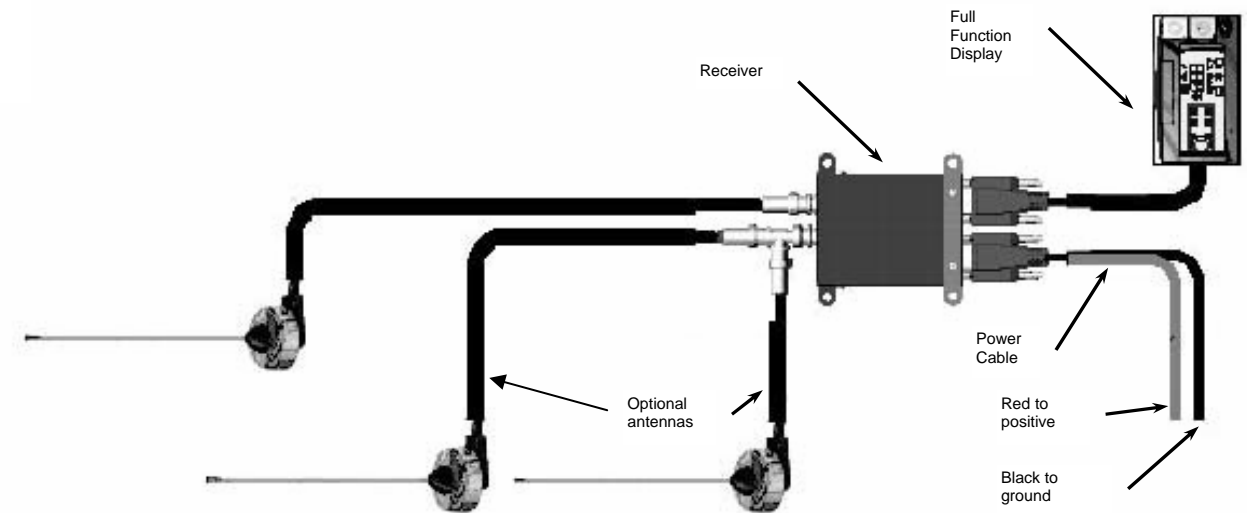

Figure 5 – System wiring
3. Wire the system as shown in Figure 5. Plug the Full Function Display into the left plug of the Receiver. Plug the power cable into right side plug.